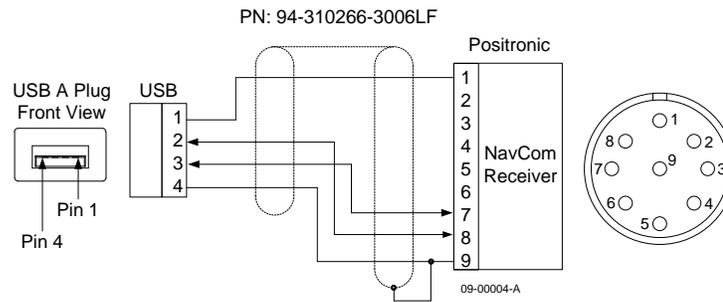

Figure 87: USB Device Cable Pin Assignment
- ✓ Positronic 9-Pin Male to USB 2.0 Device Plug (P/N 94-310266-3006LF): constructed as described in Figure 87.